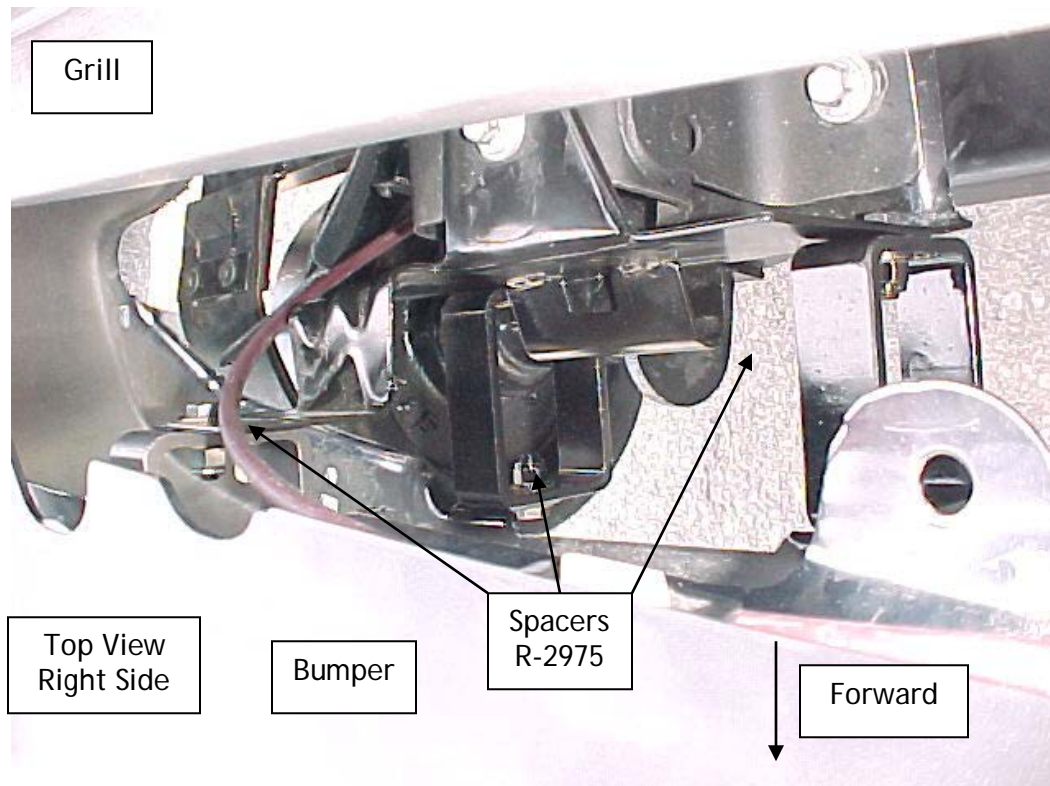

Figure 1: Spacers installed between bumper and bumper mounting brackets
14. Using one $3/8$ " x 1.25" long bolt, two $3/8$ " washers, and one $3/8$ " nut, fasten one Rafna supplied spacer to each of the other six front bumper mounting locations on the frame. Then mount the front bumper onto the spacers using one $3/8$ " x 1.25" long bolt, two $3/8$ " washers, and one $3/8$ " nut through each spacer. This will set the bumper about 4" ahead of it's original location. See figure 1.